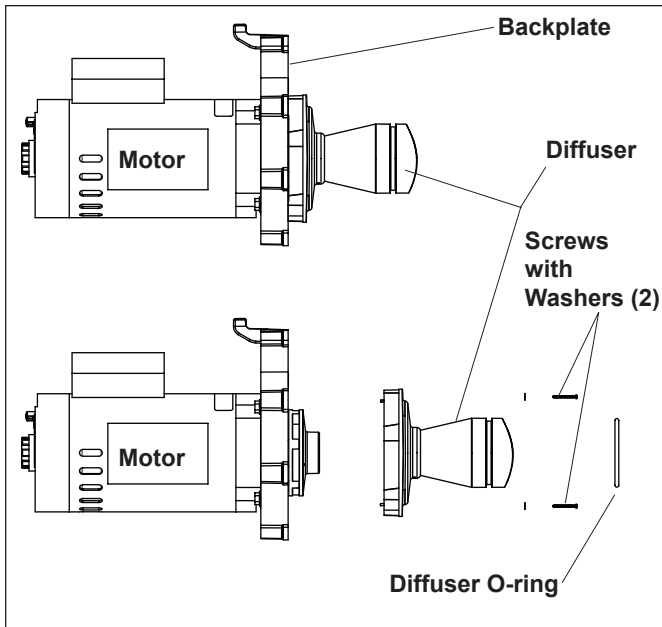
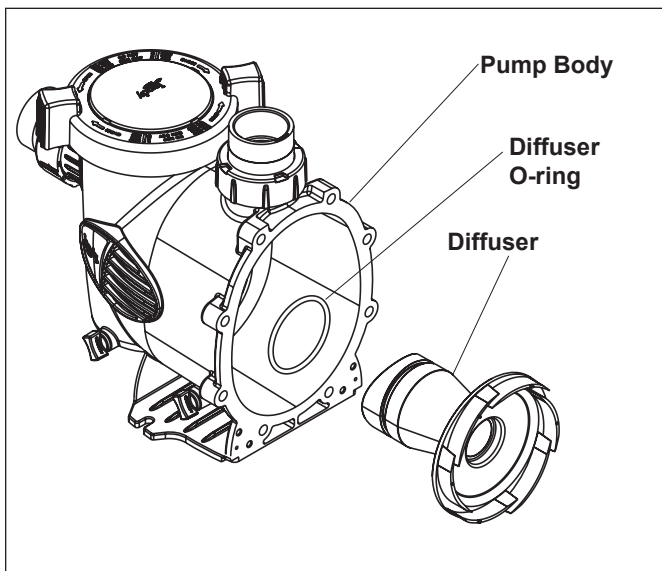

Figure 3. Remove the Diffuser
Figure 4. Remove the Diffuser O-ring
5. Using a No. 1 Phillips screwdriver, remove the two (2) screws holding the diffuser. (The diffuser is the cover over the impeller). Then remove the diffuser (see Figure 3). Remove the diffuser o-ring (see Figure 4).